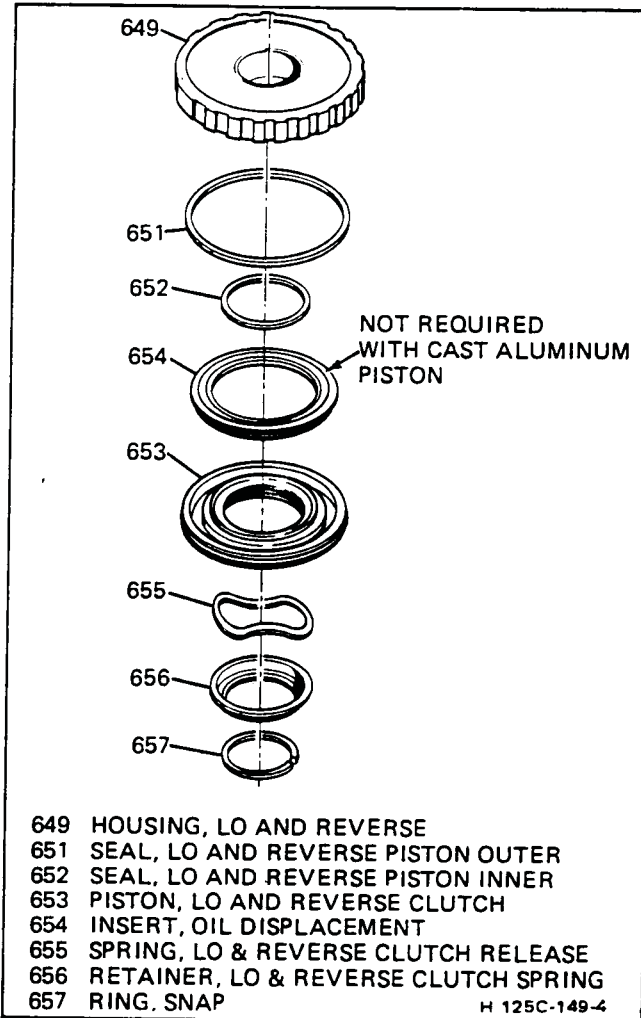

Figure 57 Lo &amp; Reverse Clutch Assembly
5. Spacer ring (650) – ring is 1.07 mm (0.042") thick
**LO AND REVERSE CLUTCH HOUSING****Disassemble (Figure 57)**
1. Snap ring (656) – push down on spring retainer (657).
2. Waved spring (655)
3. Clutch piston (653)
4. Inner (652) and outer (651) seals from piston (653)
**Inspect (Figure 57)**
- Waved spring (655) for damage
- Inner (652) and outer (651) seals for nicks or rolling
- Clutch housing (649) for damage or plugged feed hole
- Clutch piston (653) for distortion, cracks or damage
**Assemble (Figures 57, 58 and 59)**
1. Seals (651 and 652) onto piston (653)
2. Piston (653) – with J-26744-A inner seal (652) first, then outer seal
3. Waved spring (655)
4. Retainer (656) – cupped side down
5. Snap ring (657) – push down on spring retainer (656).